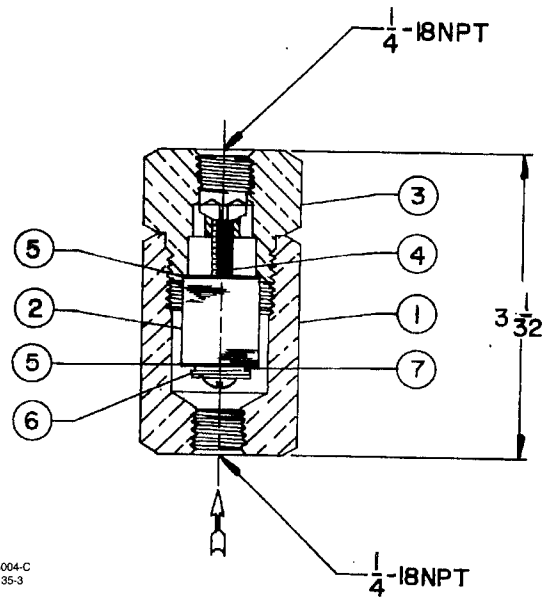

Figure 1. Typical P590 Series Filter Assembly
Using good piping practices, make sure that all tubing and piping are clean and unobstructed. Apply a good grade of pipe compound to the male pipeline threads. Install the filter in the line with the flow in the direction of the arrow shown in figure 1.
Perform this procedure to clean or replace filter parts in a P590 Series filter assembly. Key numbers are referenced in figure 1.
Upon reassembly, one of the flat washers (key 5) must go between the filter element and the filter head (key 3) and the other must go between the filter element and gasket. Use a good grade of pipe thread sealant on the filter head pipe threads as shown by P.T.S. in figure 1.